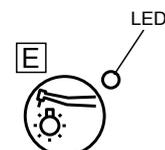

Fig.3-6 Light Pack Switch
**④ The Light Pack Switch (Optional)(Fig.3-6) [E]**